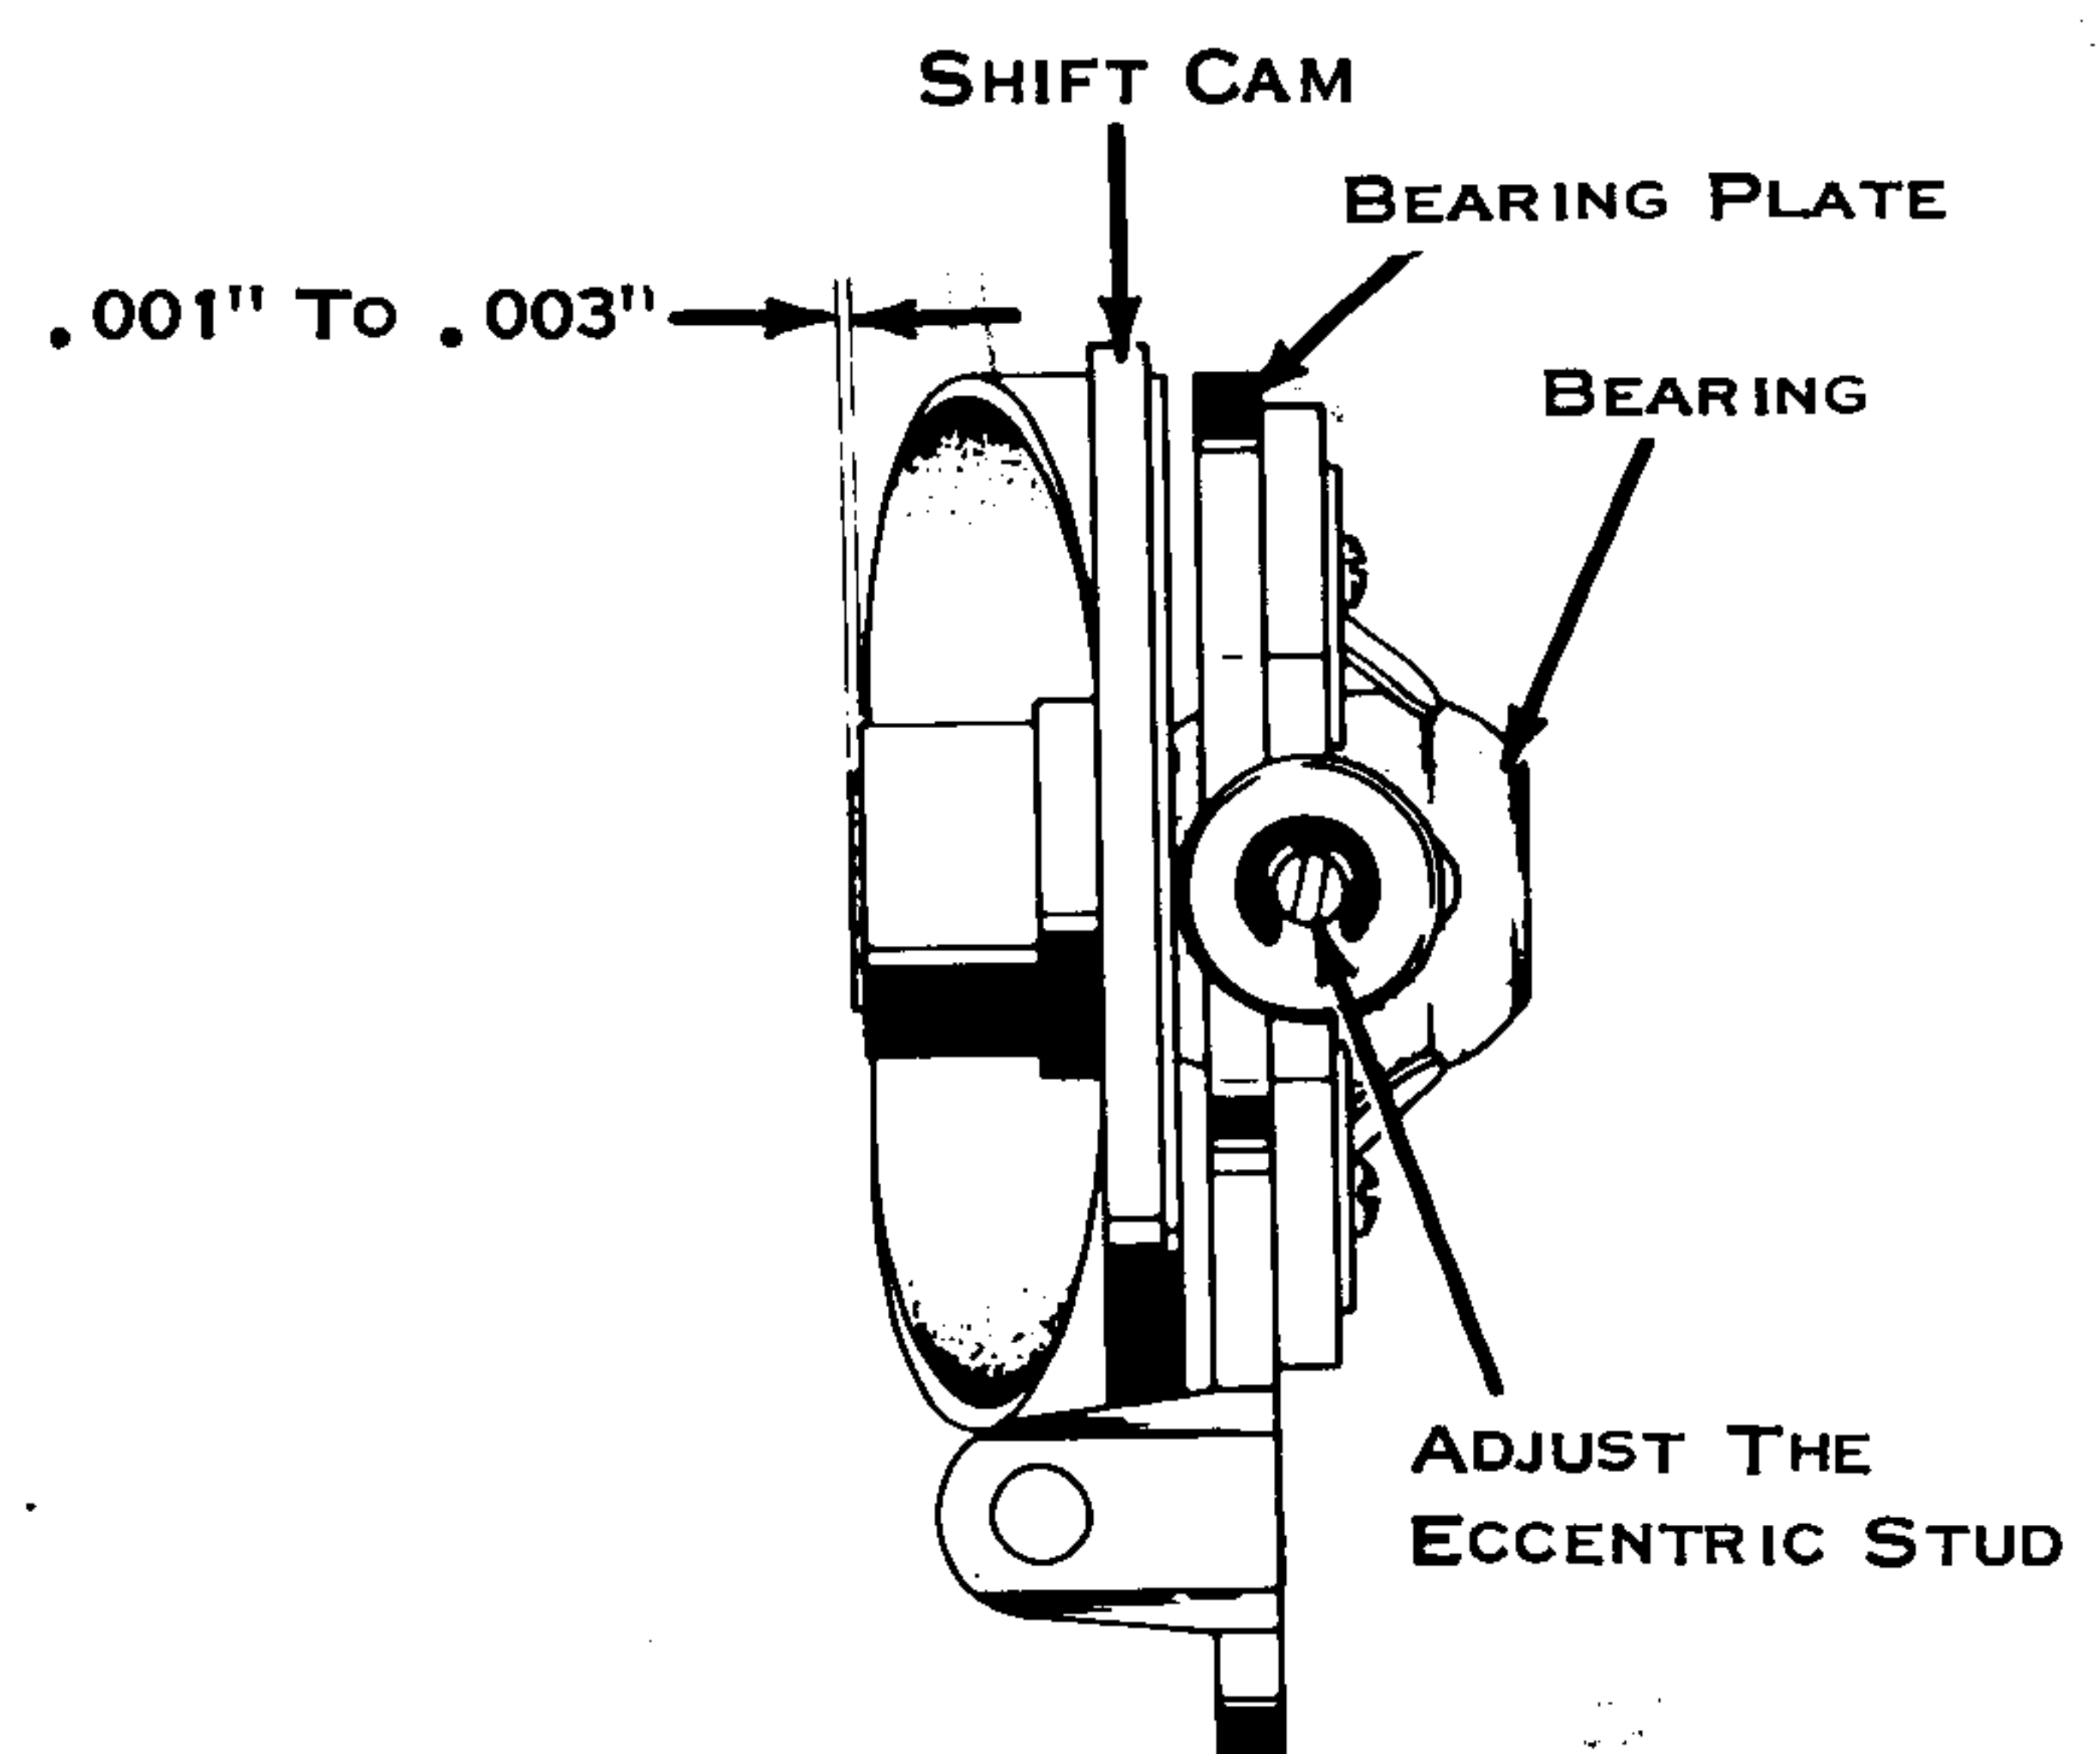

Figure 85. Shift Cam Back-Up Roller
1. Shift Cam Back-Up Roller (Fig. 85) - The back-up roller eccentric should be adjusted left or right so that .001" to .003" of the cam bearing extends beyond the cam. CAUTION - Any change in the position of the back-up roller has a direct effect on the adjustment of the typehead homing and the shift motion adjustment.